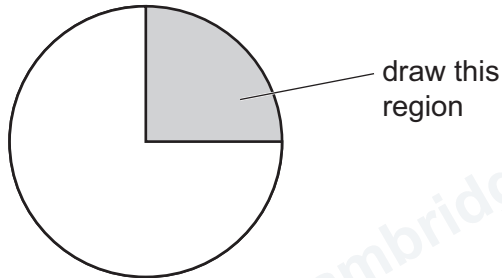

Figure 2.1
- (a) (i) Draw a large plan diagram of the region of the stem on J1 indicated by the shaded area in Figure 2.1. Use a sharp pencil.